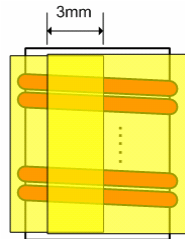

Figure 29. Overlapped Section of Insulation Taping
- 10. Overlapped section length between the start and the end of insulation tape is about 3mm – see Figure 29.